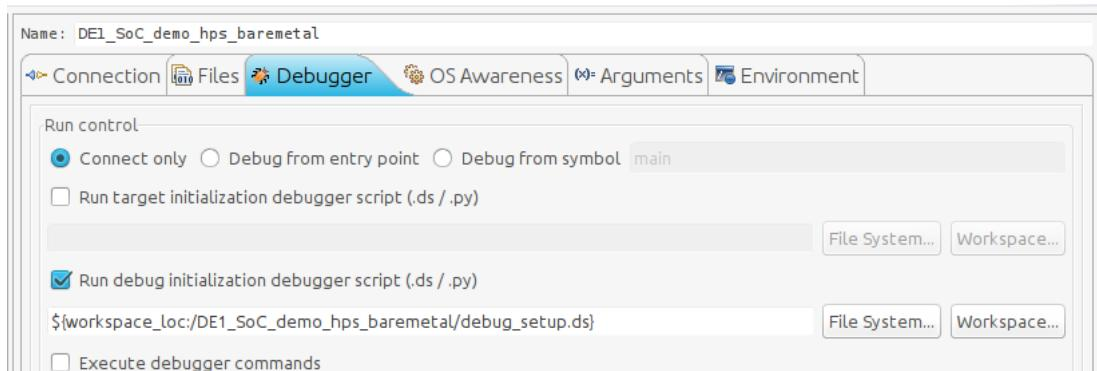

Figure 8-31. Debug Configuration "Debugger" Tab
- b. Enable the “Run **DEBUG** initialization debugger script (.ds / .py)” checkbox. Set the debug script to the one we defined for the project in 8.4.2.3.2.2. You should have something similar to Figure 8-31.